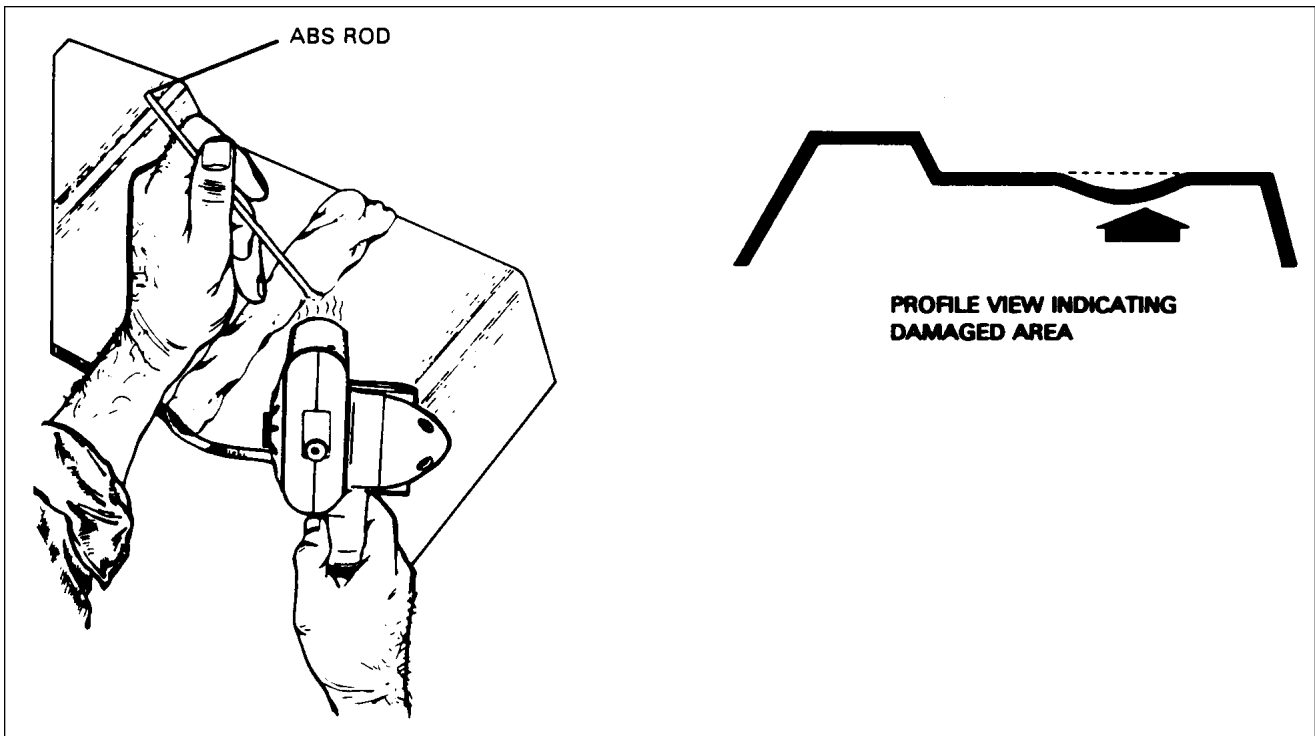

Figure 51-10. Repair of Impacted Damage
- a. Stress lines produce a whitened appearance in a localized area. They are generally caused by severe bending or impacting of material. (Refer to Figure 51-10.)